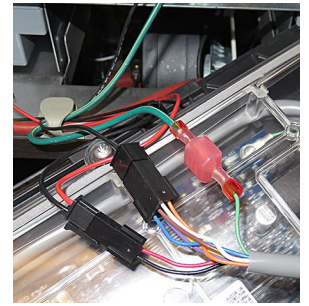

Figure 17
20. Disconnect the other cables from the connectors on the back of the controller marking their position for reassembly (see Figure 17).